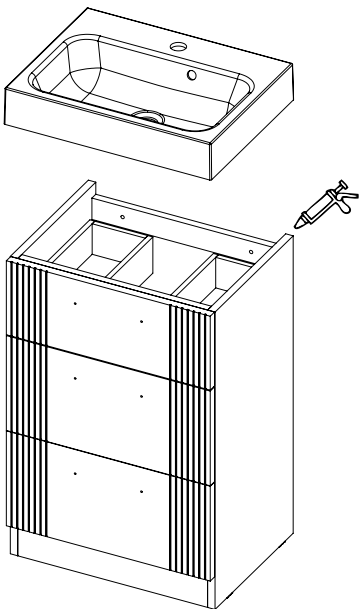
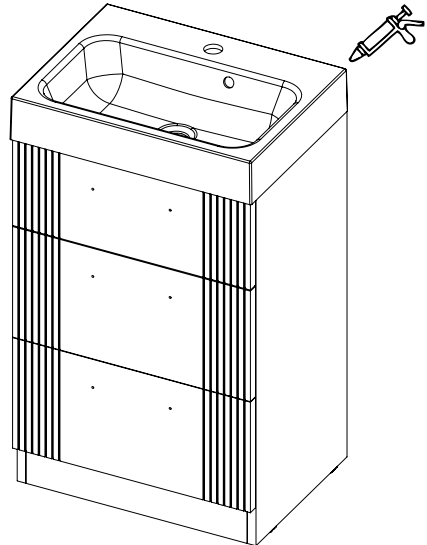

Fig. 2
Fig. 3
4. Silicone along the top edge of the unit and fit the basin *as per Fig. 2.* Silicone along back edge of basin and along the back of the unit and wall *as per Fig. 3.* Allow to set fully.